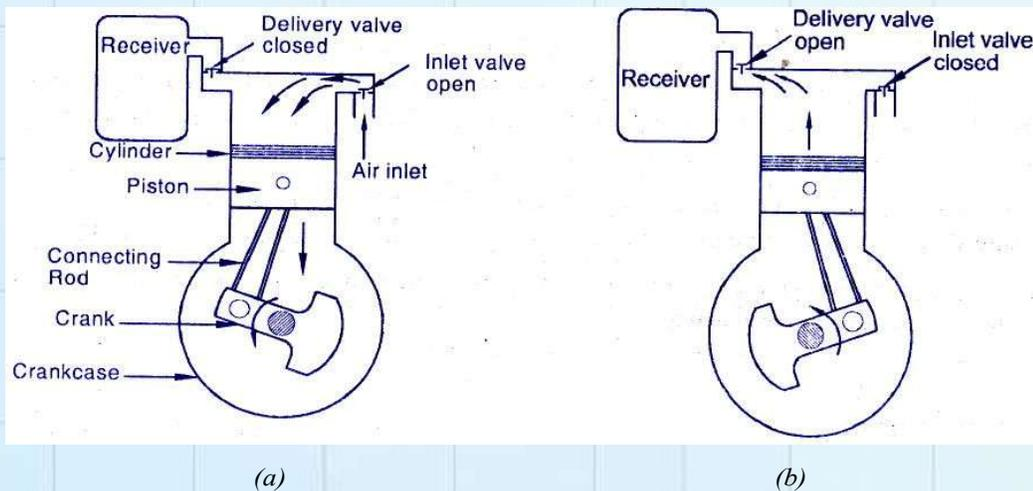

Fig.7.1 – Single stage single acting reciprocating compressor
A single stage, single acting reciprocating compressor is shown in Fig. 7.1.
- ▶ In this stroke; when the piston is moving from TDC towards BDC in downward direction; the inlet valve will open due to difference of pressure and fresh air will entering into the cylinder as shown in Fig. 7.1 (a).
- ▶ Finally, when a pressure will be reach slightly more that compressed air pressure on the outside of the delivery valve then the delivery valve will open as as shown in Fig. 7.1 (b).